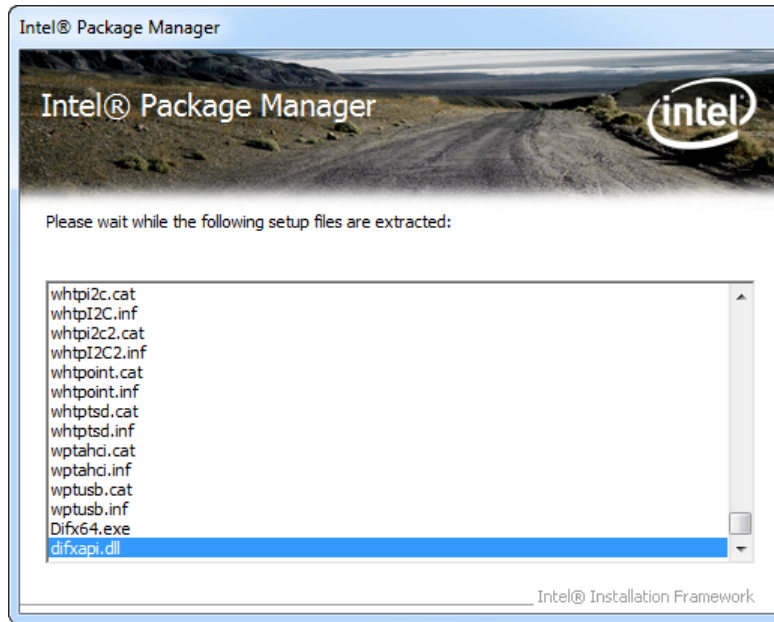

Figure 8-2: Chipset Driver Screen
- Step 4: The setup files are extracted as shown in **Figure 8-2**.